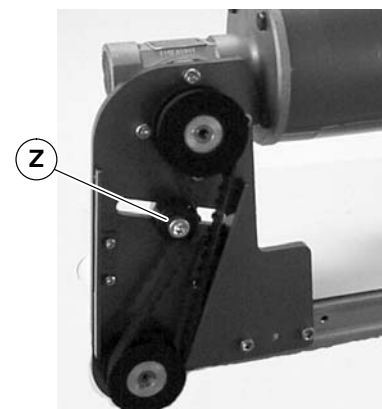

Figure 19
- Loosen tensioner (Z of Figure 19).
2. Loosen tensioner (Z of Figure 19).